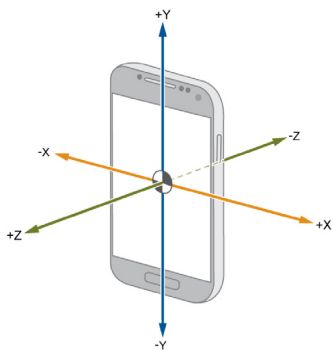

Figure 4 -Sample x, y, and z axes (z-axis measures front-to-back movement)
- e. If the sensor is a 3-axis accelerometer, select the Z-axis. The Z-axis measures movement from the front face of the sensor toward its backside (as well as from the backside to the front). See Figure 4 for an example of X, Y, and Z-axes on a smartphone.